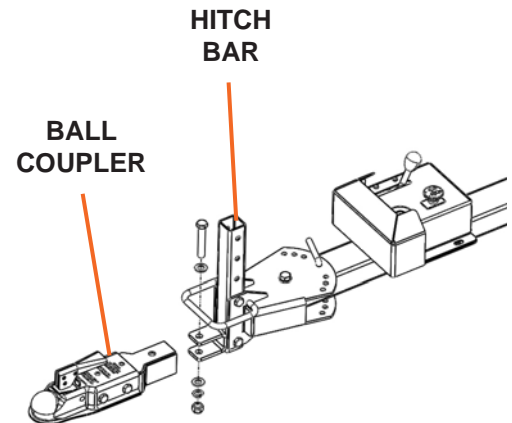

Figure 6
1. Move your tow vehicle to a level area within connection distance of the brush mower and set the parking brake. Lift the hitch and position it onto the center of the tow vehicle hitch plate and secure with the clevis pin and hitch clip pin or using the 2" ball hitch (see Figure 6).